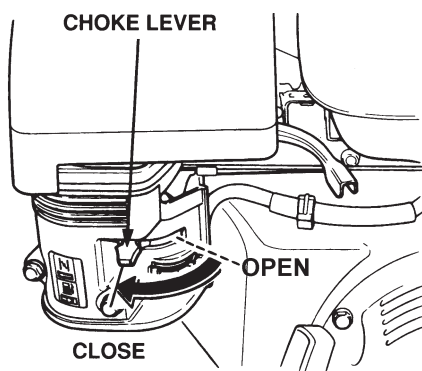

Figure 23. Engine Choke Lever
- Place the **Choke Lever** (Figure 23) in the "OPEN" position
- If the engine has started, slowly return the choke lever (Figure 23) to the **CLOSED** position. If the engine has not started repeat steps 1 through 5.